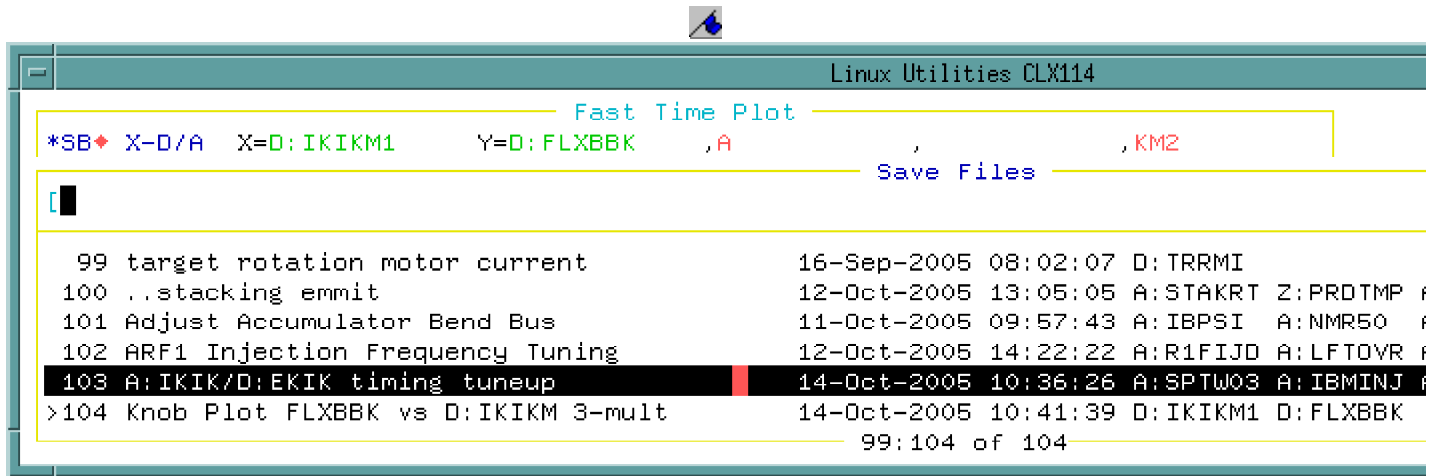

Figure 23:
1. As shown in Figure 23, start a FTP from Utility Window FTP Pbar File 104.